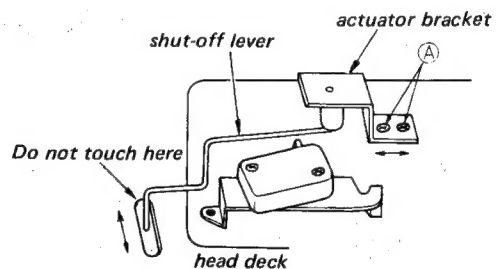

Fig. 5-1-1. Automatic shut-off Switch adjustment (1)
2. Make sure that the shut-off lever does not touch the head deck when pushing it by the hand. See Fig. 5-1-1.
4. Place the head deck in a normal position. See Fig. 5-1-1.